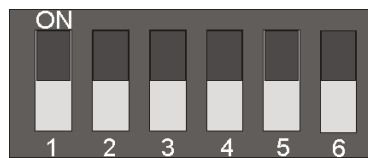

Figure 2.3 DIP Switch
1. Refer to Figure 2.3 for location of the DIP switches on the NFC-FFT board.